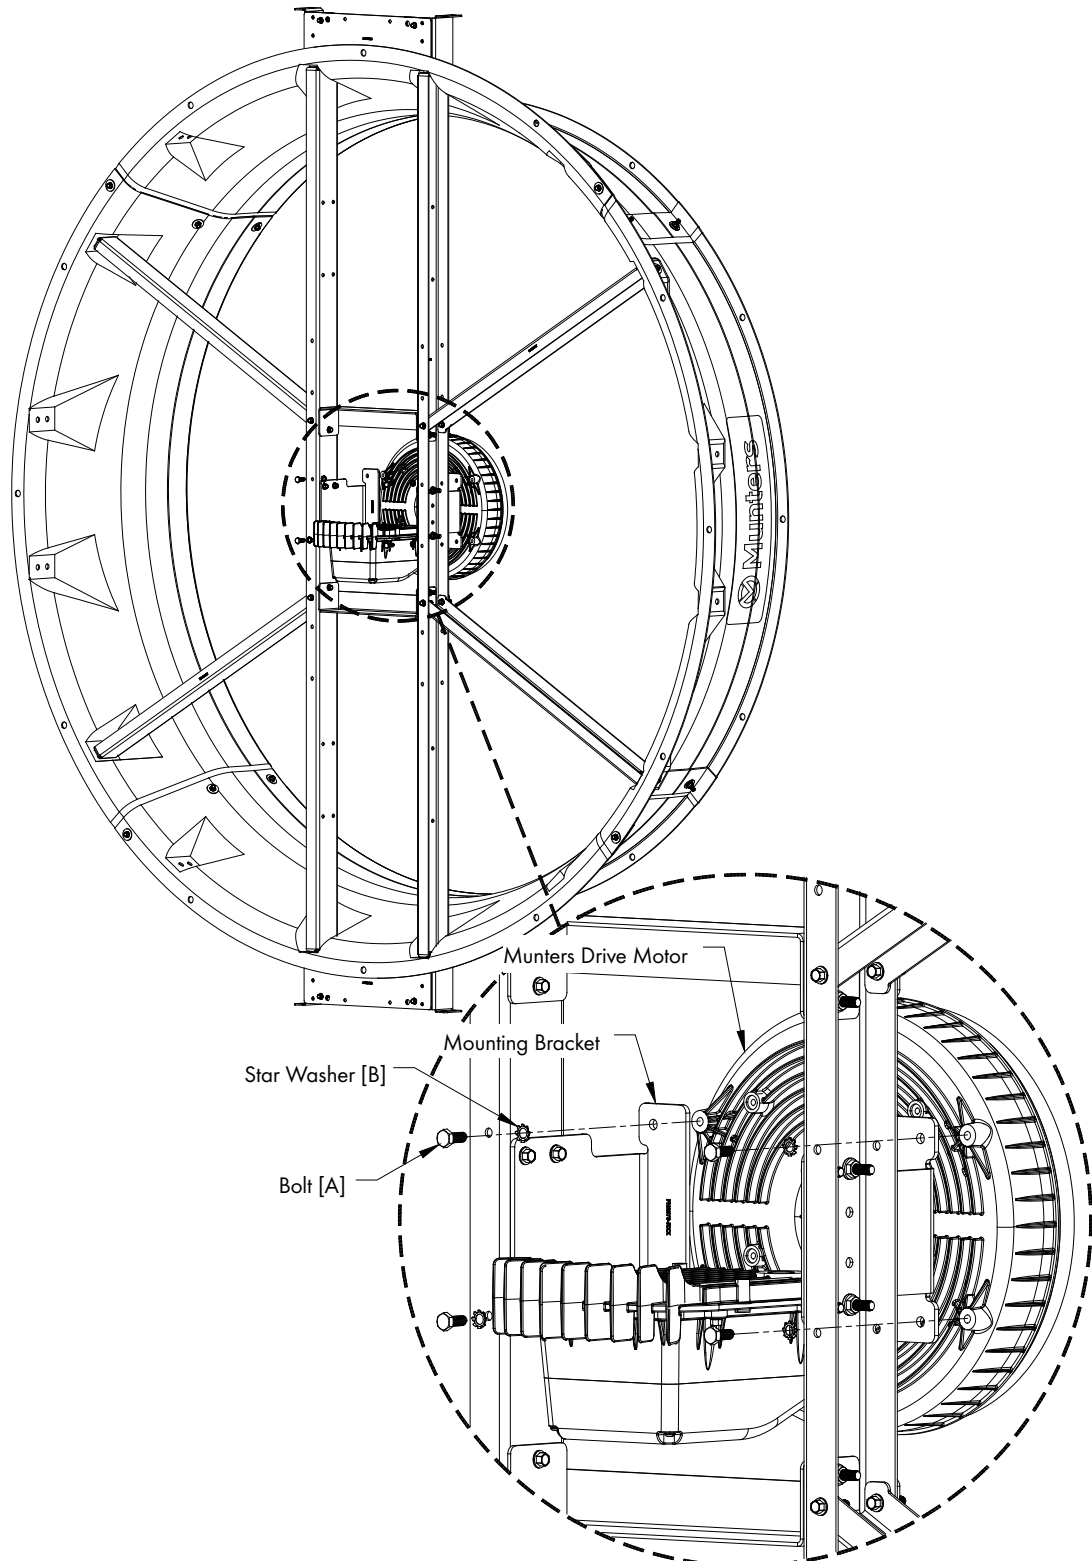

Figure 21
Carefully lift Motor/Drive into place and secure in place using (4) Bolts [A] and Star Washers [B]. Tighten Bolts to 60 in-lbs. [6.8 Nm] of torque. See Figure 21.